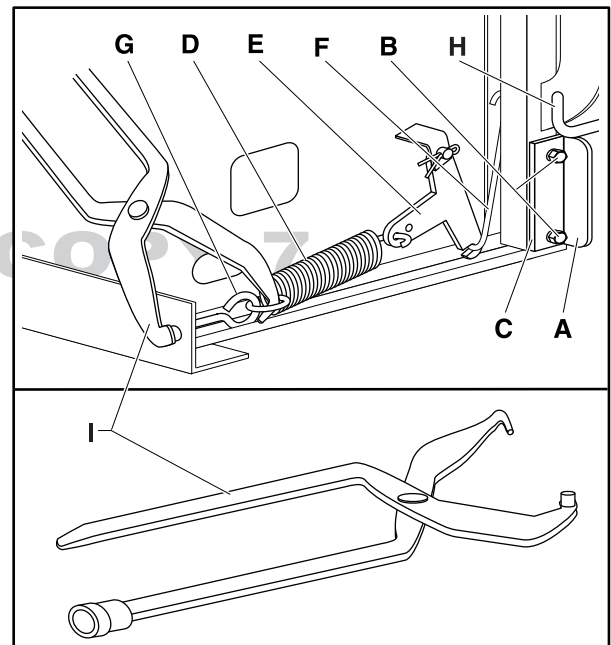

Figure 5: Oven Door Operating Mechanism
2. Using an automotive brake spring pliers release spring from eyelet as shown in Figure 5.